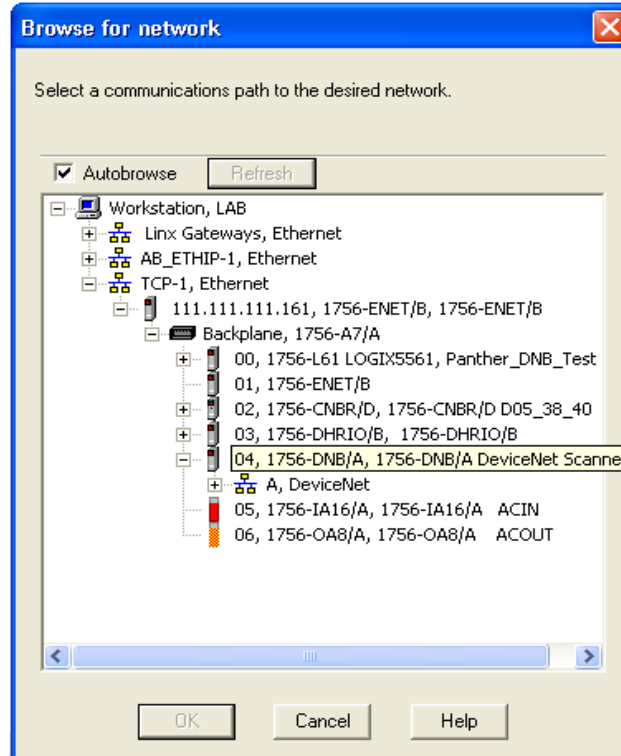

Figure 3-13: Browse for network
2. Select the appropriate network path. In this case (Figure 3-13), 1756-DNB/A DeviceNet Scanner is selected.